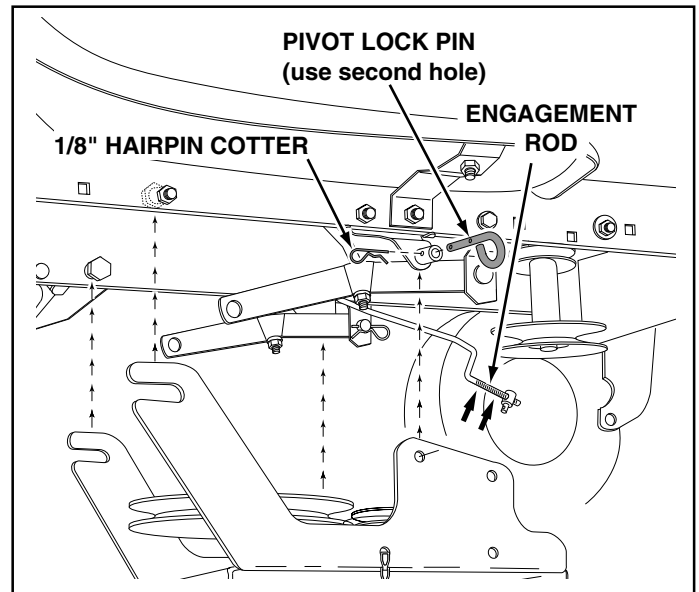

FIGURE 12 RIGHT SIDE VIEW
- Be sure to lift up the front end of the engagement rod (as shown in figure 12) when performing the next operation. You can temporarily support the rod using a rubber band tied to the engine pulley keeper.
- Attach the clutch/idler assembly to the tractor frame as follows. Hook the assembly's notched arms onto the two shoulder bolts you assembled to the inside of the tractor frame. Lift the front of the assembly and attach it to the R.H. and L.H. hanger brackets using two pivot lock pins and 1/8" hairpin cotters. See figure 12.